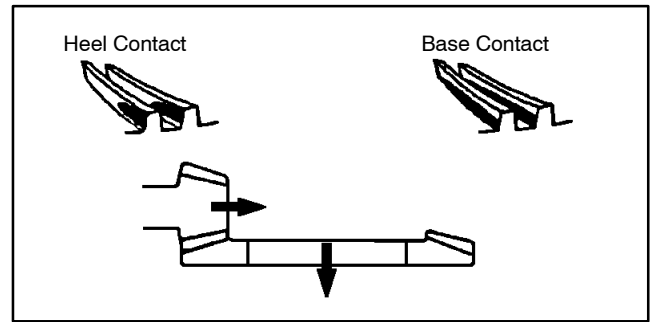

Figure 30
Study the different contact patterns (Figs. 30 and 31) and correct gear engagement as necessary.
1. If contact is toward the heel or base of the gear (Fig. 30):